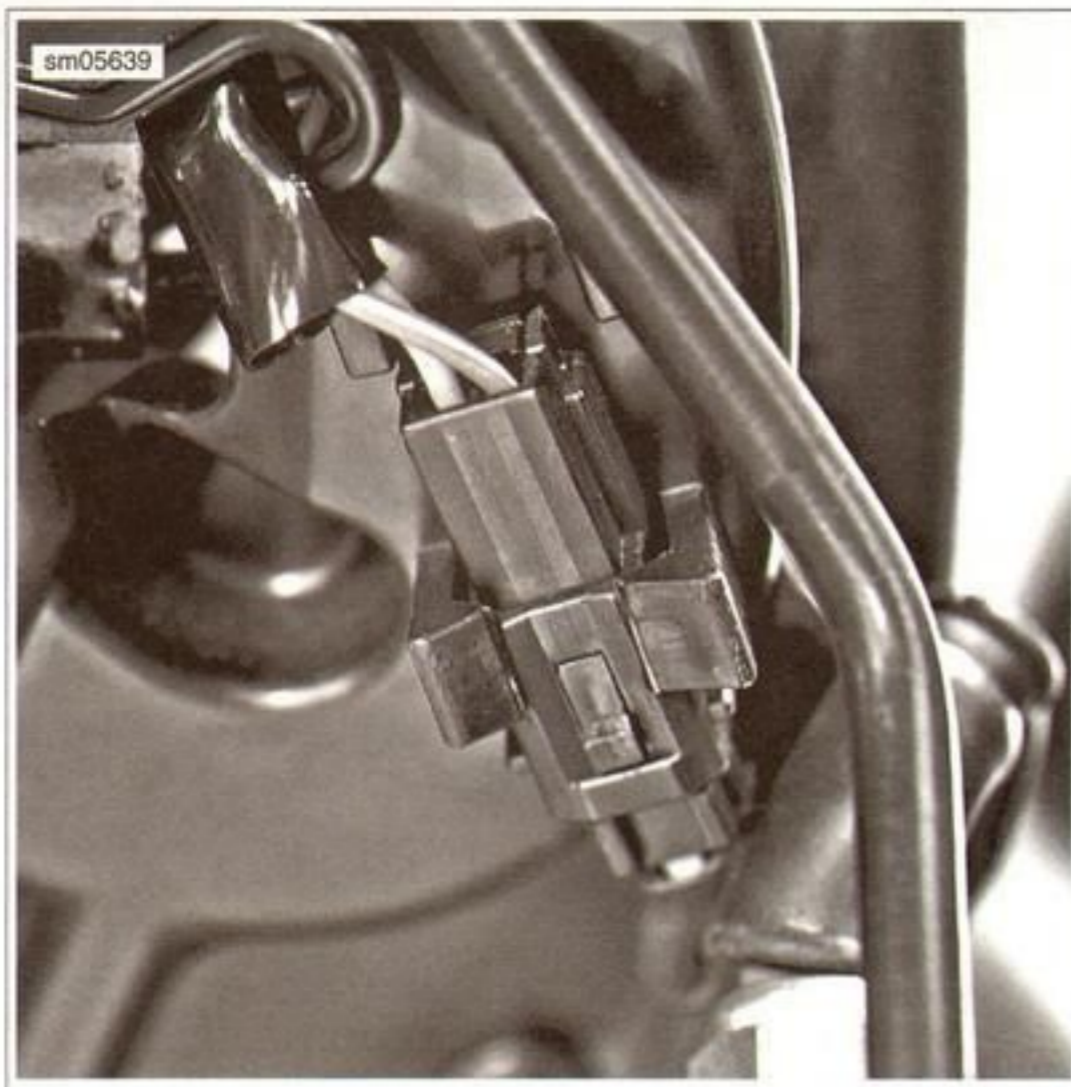

Figure 4-69. Brake Light Switch Connector [121]
7. See Figure 4-69. Join the brake light switch connector housings and snap onto the cover.